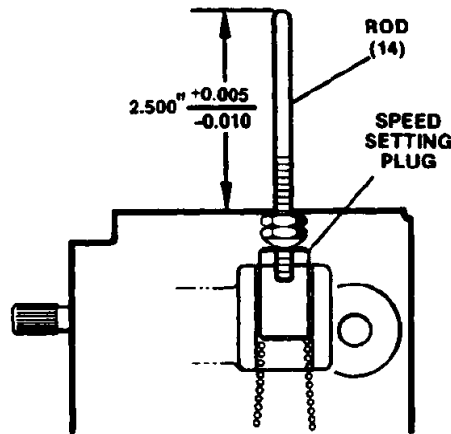

Figure 3. Speed Setting Plug
2. See Figure 3. Measure the distance from the top surface of the governor case to the top of the rod with the governor's speed setting against the low speed stop.